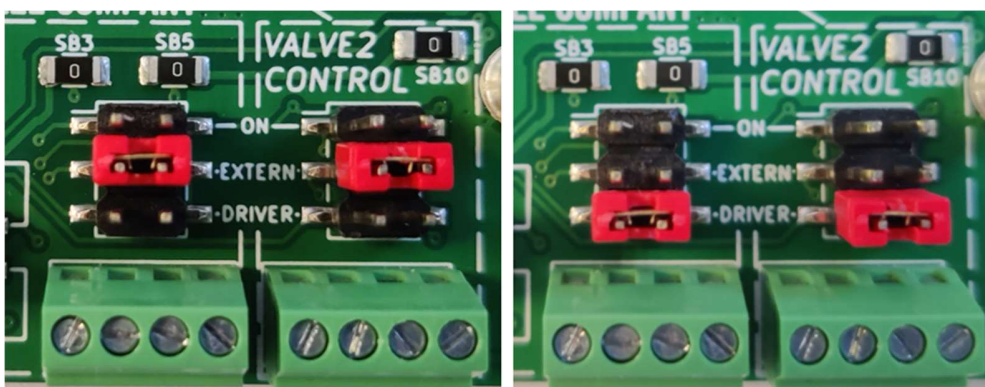

Figure 33 Valve drivers configured to be controlled by an external signal (left) and by the General Purpose driver on board (right)
- Setting the jumper to EXTERN uses the external input from the screw terminals as shown on the left in Figure 33. This signal needs to be between 3.3V and 5V and the control pin on the terminal is indicated on the back of the board.
- Setting the jumper to DRIVER uses the relevant GPIO pin on the General Purpose driver (default) as shown on the right in Figure 33.